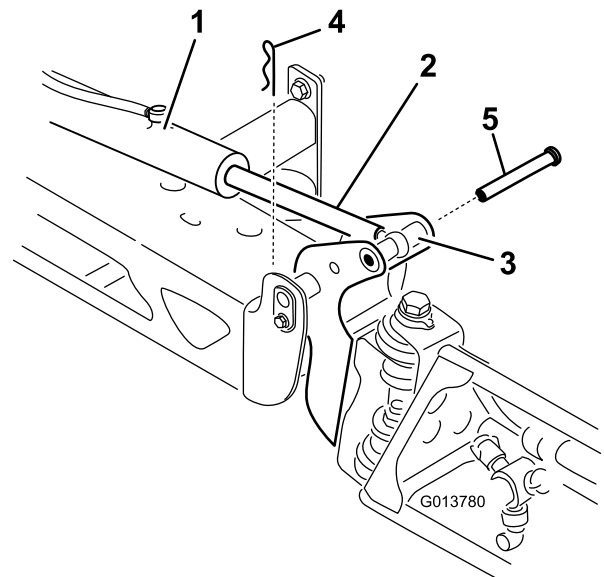

Figure 58
2. Remove the cotter pin from the pivot pin (Figure 58).
3. Lift up on the boom and remove the pin (Figure 58), and slowly lower the boom to the ground.
- While holding the boom, insert the pin through both boom pivot and actuator rod (Figure 58).